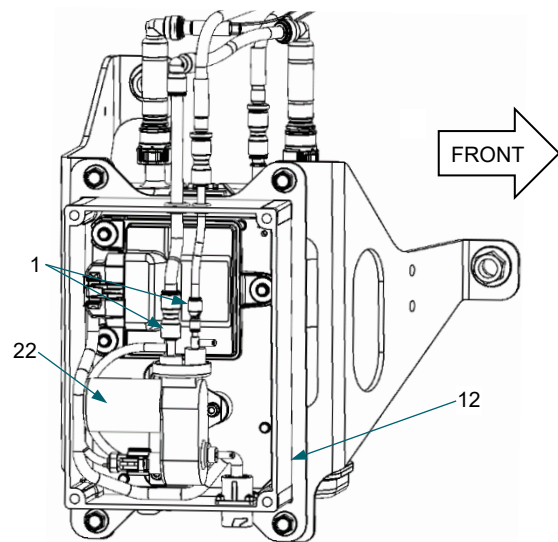

Figure 4: EVAP pump module box (12), PCV line quick connect fittings (1), EVAP pump (22).
8. Verify PCV line quick connect fittings (19) to EVAP pump (2) are securely fastened. *Figure 4*